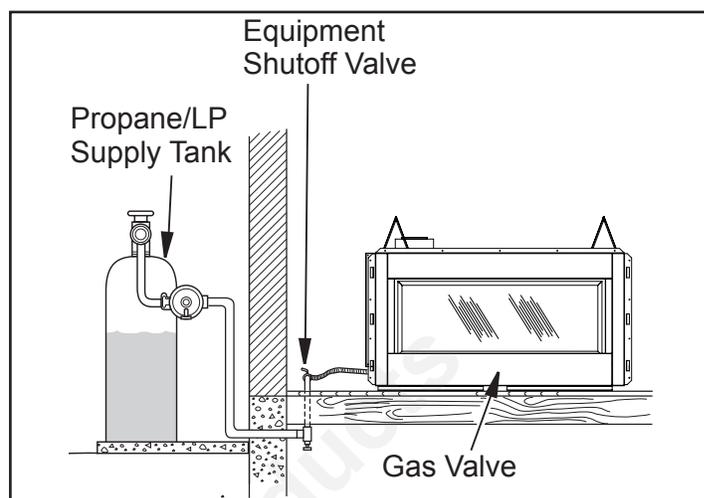
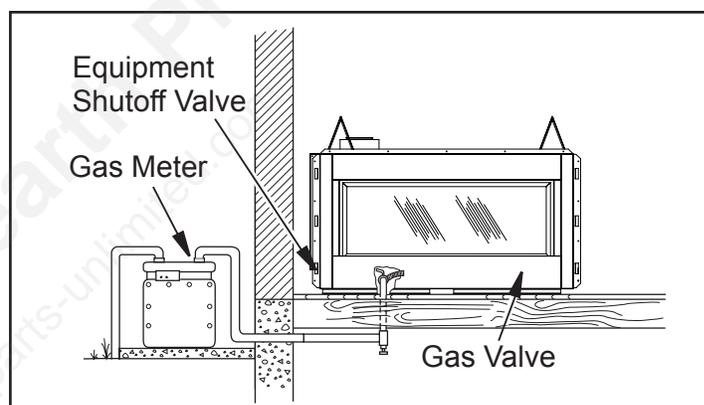

Figure 29 - Checking Gas Joints for Propane/LP Gas Fireplace
Figure 30 - Checking Gas Joints for Natural Gas Fireplace
3. Check all joints from propane/LP supply tank or gas meter to equipment shutoff valve (see Figure 29 or Figure 30). Apply noncorrosive leak detection fluid to all joints. Bubbles forming show a leak.
4. Check all joints from equipment shutoff valve to gas valve (see Figure 29 or Figure 30). Apply noncorrosive leak detection fluid to all joints. Bubbles forming show a leak. Correct all leaks at once.